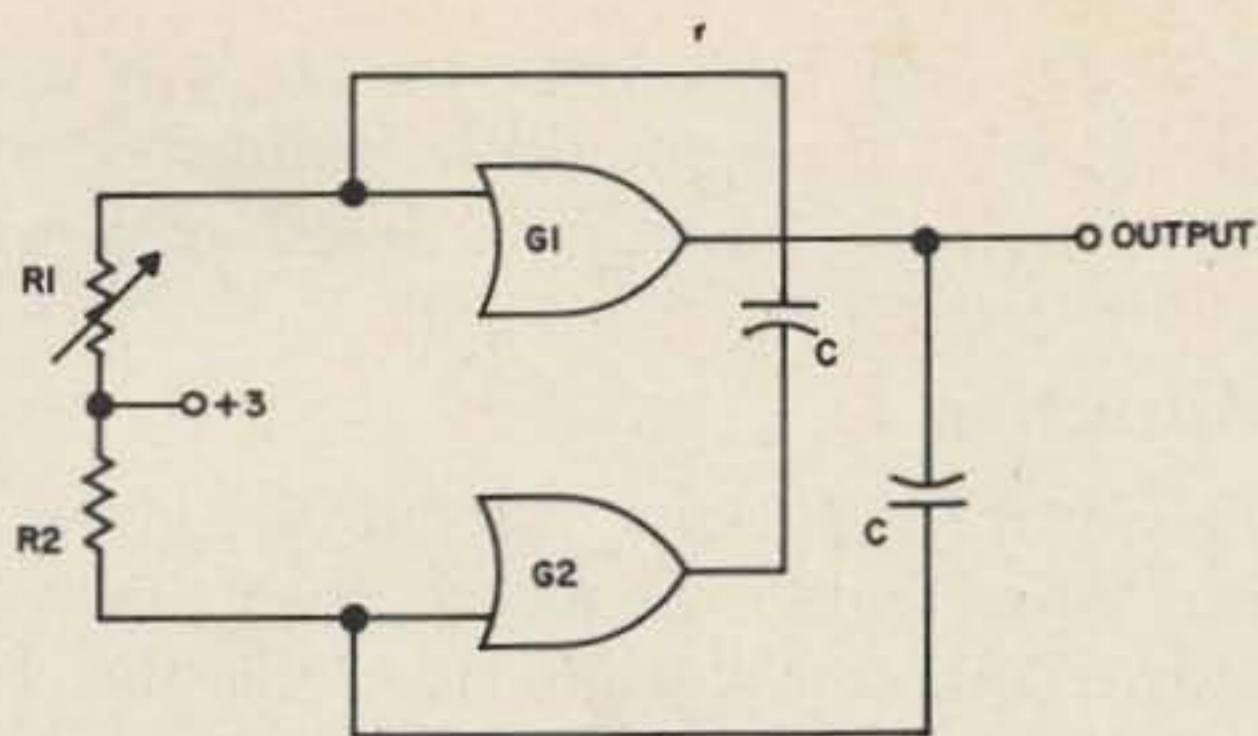
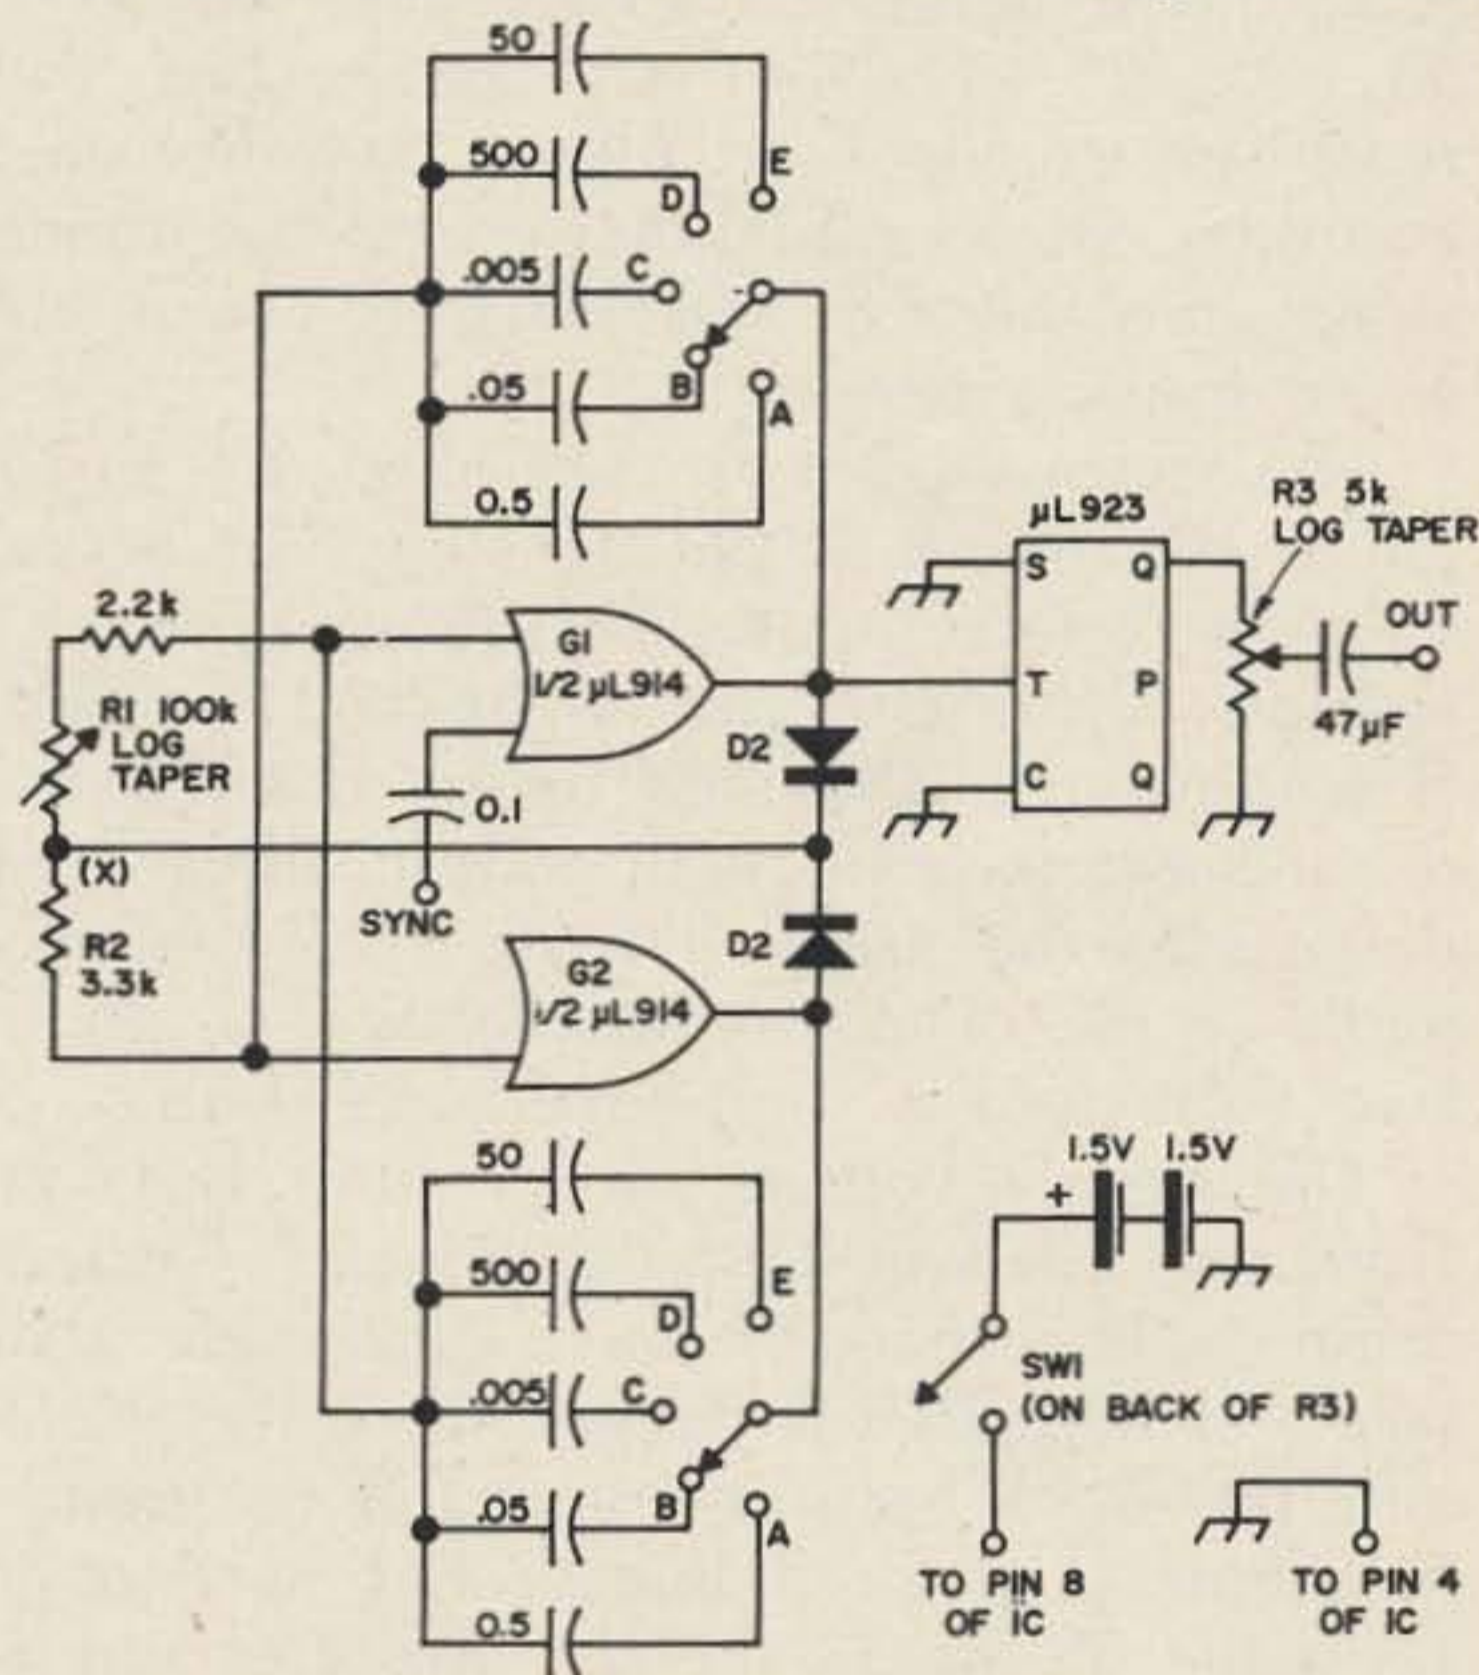

Fig. 1. Simple astable multivibrator circuits.
Fig. 2. Complete square wave generator. Bandswitching capacitors are 10% or better tolerance. Resistors are  $\frac{1}{4}$  watt.
The circuit which generates the basic square wave form is shown in Fig. 1. This is called an astable multivibrator. The gates  $G_1$  and  $G_2$  are from a Fairchild  $\mu$ L 914 integrated circuit. It's a dual two-input gate and should be familiar to many 73 readers.
The simple astable multivibrator of Fig. 1 would work nicely if it were not for one big shortcoming. It may cease oscillating when switching frequency ranges or it may
The seemingly insurmountable problem was easily overcome by using a couple of diodes. Fig. 2 shows the circuit, known as a self-starting circuit. By referring to Fig. 1 and 6 you'll be able to see how this circuit works. The two diodes are connected to each output and to the junction marked (X). The +3 V for  $R_1$  and  $R_2$  is now supplied through  $D_1$  and  $D_2$  from the collector of either gate. Remember that when a gate is cut off the collector goes positive and +3 V appears at junction (X). The circuit will operate properly as long as at least one gate is cut off. Now if both gates should happen to saturate at the same time when switching capacitors, the positive voltage at (X) will disappear, tending to cut off the gates immediately. In other words, the diodes, which form the OR gate, will not allow the multivibrator to lock in a saturated condition. Proper operation will begin when the next capacitor is switched in. We now have a reliable astable multivibrator circuit which produces rectangularly shaped waves.